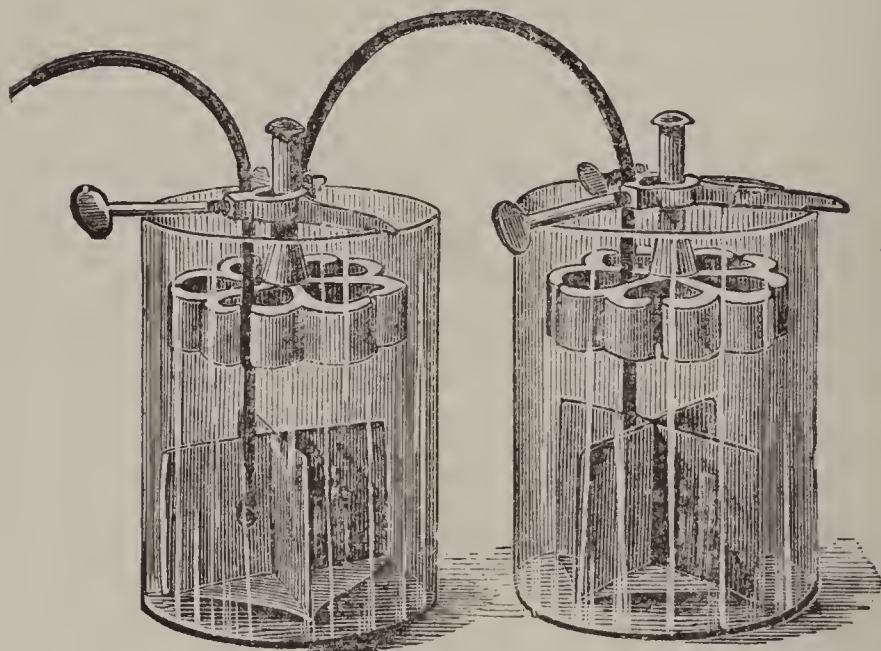

Fig. 3.
*What battery is employed for telegraphic purposes?—*The gravity constant battery is the adopted standard form in general use throughout the United States, upon both main and local circuits. See Fig. 3.